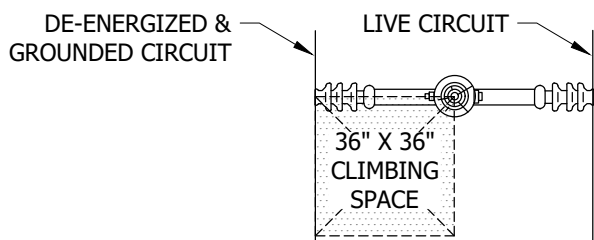

FIGURE 3 IIIb
- ONE OR BOTH CIRCUITS ARE DE-ENERGIZED, BOND WIRES AND DE-ENERGIZED CIRCUIT ARE GROUNDED, AND CLIMBING SPACE IS PROVIDED AS SHOWN IN FIGURES 3 & 4.